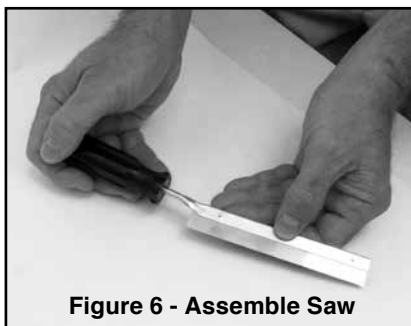

Figure 6 - Assemble Saw
4. Assemble the saw blade and wooden saw handle provided. To assemble the saw, grip the saw frame in a vise, just below the neck. Drive the handle fully onto the neck. (See Figure 6.) This will reduce the tendency of the handle to turn on the saw frame when sawing.